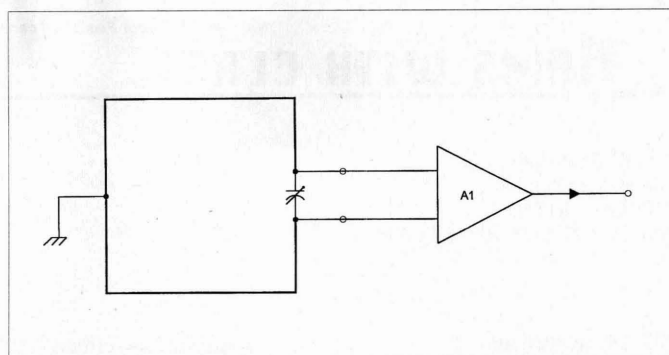

Fig. 1. Basic single-ended loop amplifier.
Fig. 1. Schematic of the new deflection circuits. Two are required, each with a spot positioning potentiometer on the front panel. A and B outputs of the horizontal (X) circuit go to the orange and yellow CRT socket wires, respectively. A and B outputs of the vertical (Y) circuit go to white and violet socket wires.
Build and install new X and Y deflection circuits per **Fig. 1**. A perfboard photo is in last month's "Homing In." The previously disconnected CRT socket deflection wires connect to these circuits. Except as noted, added resistors are quarter-watt. Higher wattage
There is no problem feeding the square-wave chopper output into the main transformer primary to operate the scope instead of a sine wave. The RMS voltage at the CRT heater is very close to the wall power value with normal +13.8-volt input. The capacitor-input high voltage supply filters produce about 35% lower voltages, compared to AC power. This is an advantage because it lowers the CRT deflection voltage requirements such that solid-state drivers of **Fig. 1** are practical. Spot brightness is more than adequate at night, but add a sunshield for daytime hunts. You can set the INTENSITY control to maximum without burning the CRT phosphors.
Fig. 1 shows the most basic single-ended amplifier and loop configuration. The loops in
Figs. 1-5 are shown as single-turn loops, but that is a graphical convenience, and both single-turn and multi-turn loops are intended. The loop is tuned by a capacitor. One end of the loop and the loop winding is grounded, as is one terminal of the amplifier input. A variant circuit is shown in Fig. 2. The version in Fig. 1 uses the main loop to provide signal directly to amplifier A1, while the variant version of Fig. 2 uses a coupling loop (magnetically coupled to the main loop) to provide signal to the amplifier. Both are single-ended, but in one case the main loop is used and in the other a coupling loop is used.